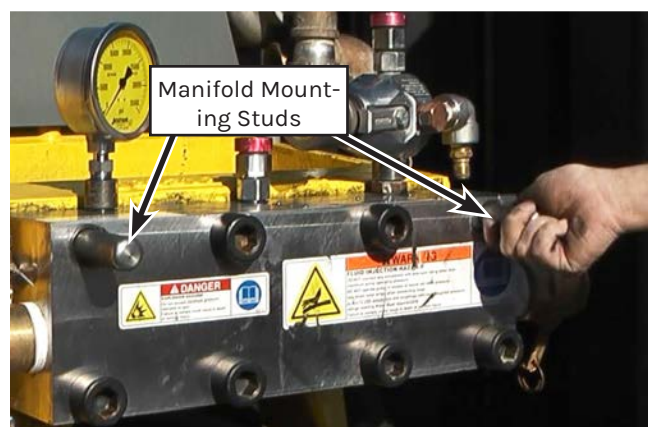

Figure 63: Manifold Mounting Stud Installation.
8. Install manifold mounting studs (Figure 63) into the two open holes to allow for easier installation of the new manifold.